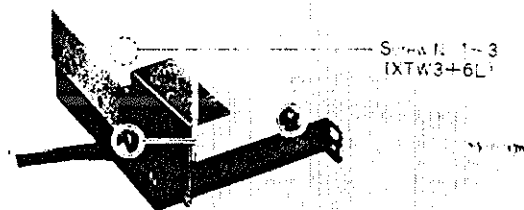

Fig. 8
2. Remove the three (3) screws (nos. 1~3) for the shield cover, as shown in fig. 8.